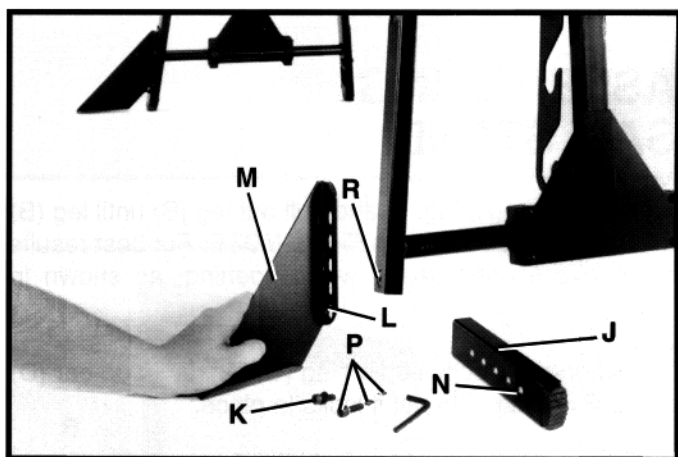

Fig. 13
5. Align bottom hole (L) Fig. 13, in stabilizer (M) with bottom hole (N) in leg extension (J) and fasten together using the supplied hex socket head screw (P), flat washer, lockwasher, and hex nut. Do not completely tighten hardware at this time.
7. Align desired hole in leg extension/stabilizer assembly with threaded hole (R) Fig. 13, in stand and secure leg extension/stabilizer assembly to stand using screw (K) which was removed in **STEP 5**. Do not completely tighten screw at this time.